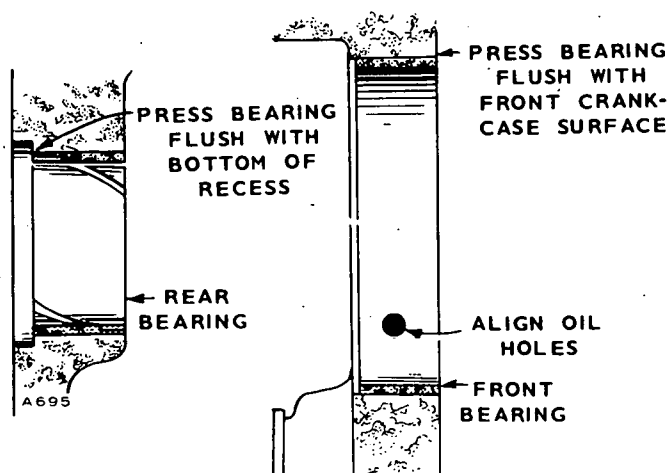

FIGURE 57. CAMSHAFT BEARINGS
Press new bearings into place (Figure 57). Press the rear bearing flush with the bottom of the expansion plug recess. Press the front bearing in flush with the crankcase front surface so the oil passages are aligned. Do not attempt to ream the bearings, they are a precision type. After the rear bearing is installed, insert a new expansion plug in the recess using sealing compound, and expand it into place with sharp blows at its center.
**Rear Oil Seal:** The rear oil seal is in the rear bearing plate. If damaged, drive it out from the inside of the plate. Using the oil seal guide and driver tool, install a new seal with the rubber lip facing outward (open side of seal inward), Figure 57. Drive the new seal flush with the rear surface of the bearing plate. Leave the seal installer on during bearing plate installation to protect the oil seal.